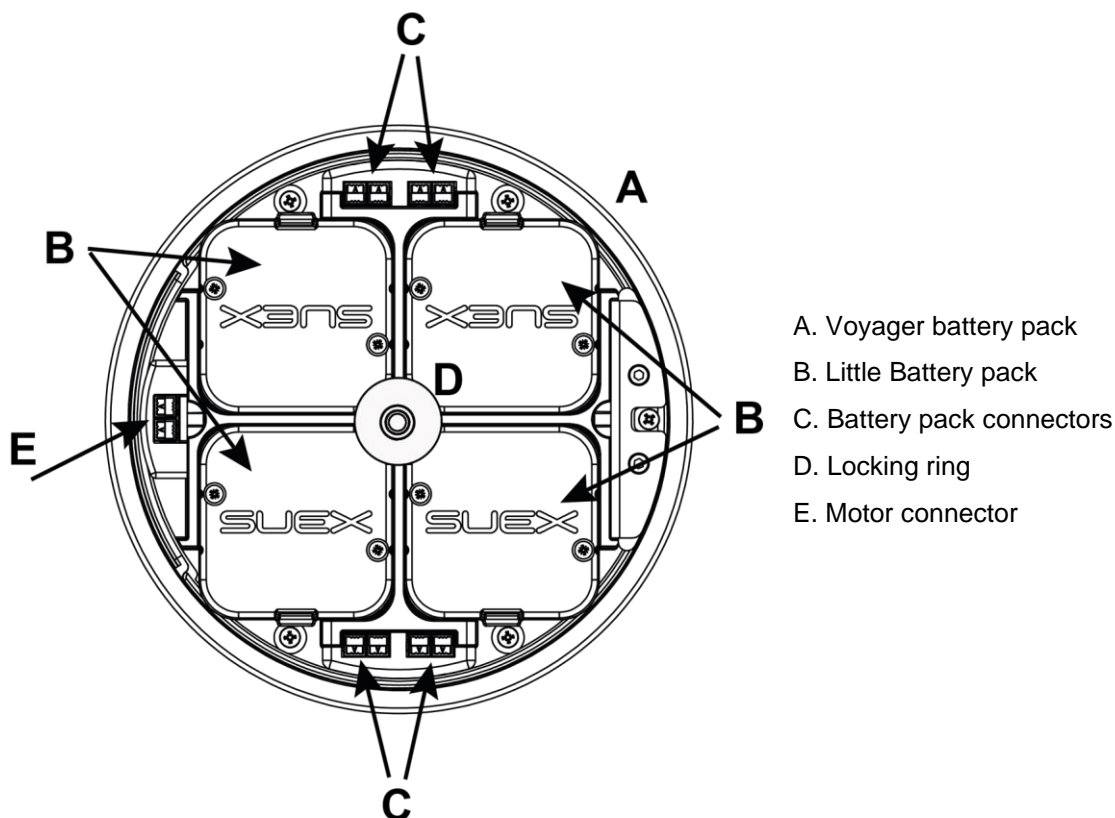

Fig 33 - Voyager battery parts description
Unscrew the ring nut (D) Ref. **Fig 33 - a pag. 27.**